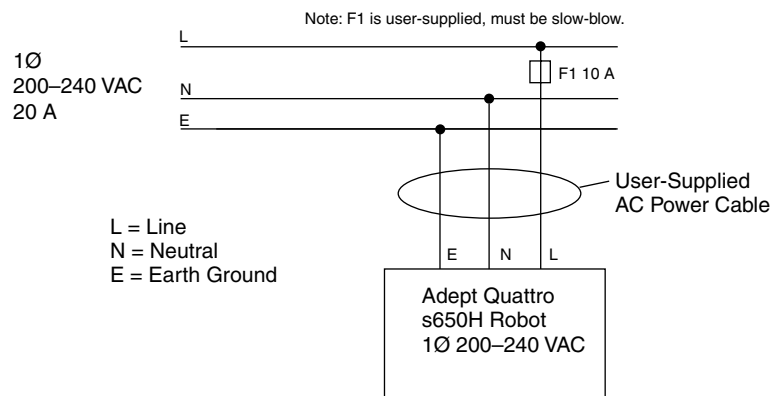
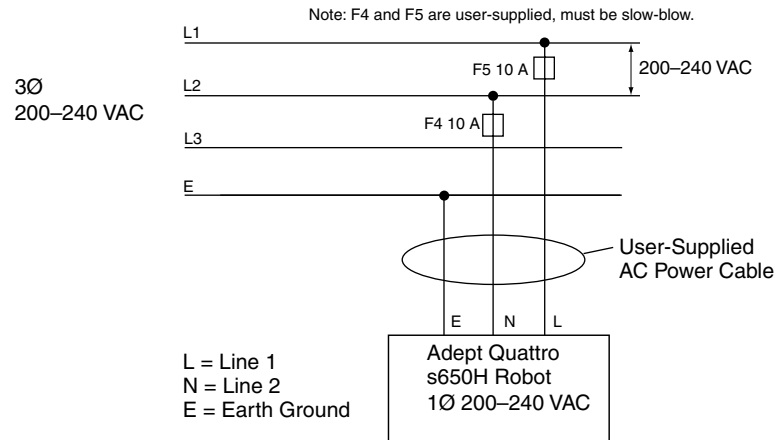

Figure 4-4. Typical AC Power Installation with Single-Phase Supply
Figure 4-5. Single-Phase AC Power Installation from a Three-Phase AC Supply
1. Connect the AC power cable to your facility AC power source. See Figure 4-4 and Figure 4-5 on page 59. Do not turn on AC power at this time.